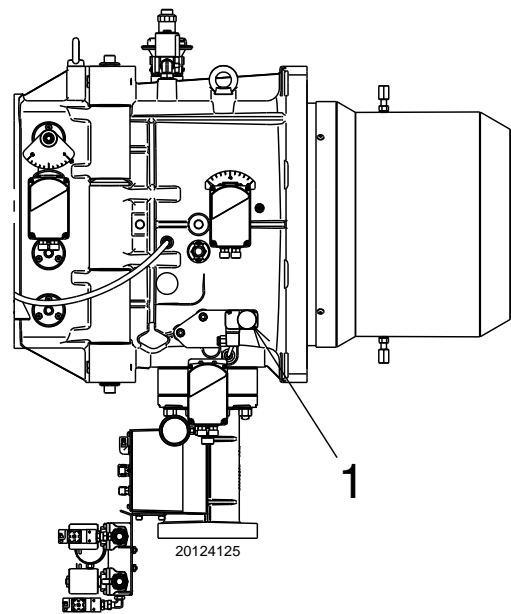

Fig. 29
Gas pressure measured at test point 1)(Fig. 29), with:
Pressure loss at gas butterfly valve 2)(Fig. 29) with maximum opening: 90°.
- subtract the pressure in combustion chamber from the gas pressure measured at test point 1)(Fig. 29).
| Gas pressure at test point 1)(Fig. 29) | = | 46 mbar |
To calculate the required gas pressure at test point 1) (Fig. 29), set the maximum modulating output required from the burner operation:
- read, on the right (column 1), the pressure at the test point 1) (Fig. 29).
pressure required at test point 1)(Fig. 29).